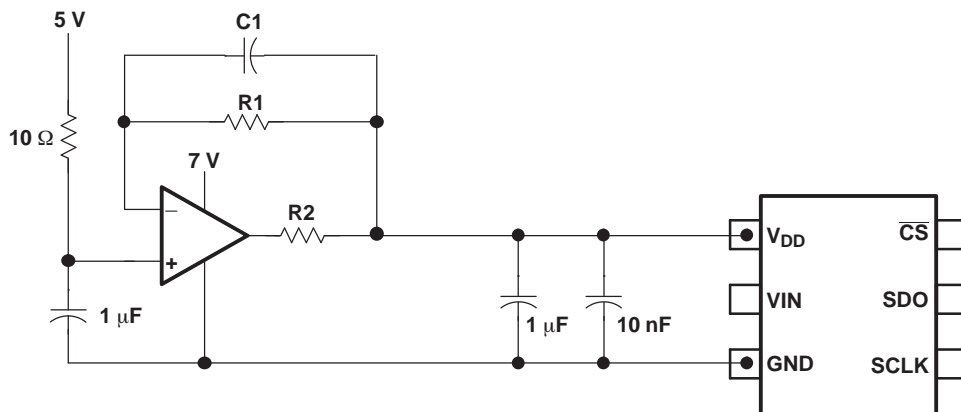

Figure 46. Buffering with the OPA735
- A low-pass filtered version of the system supply followed by a buffer like the zero-drift OPA735 can also be used in cases where the system power supply is noisy. Care should be taken to ensure that the voltage at the V_{DD} input does not exceed 7 V (especially during power up) to avoid damage to the converter. This can be done easily using single supply CMOS amplifiers like the OPA735. Figure 46 shows one possible application circuit.